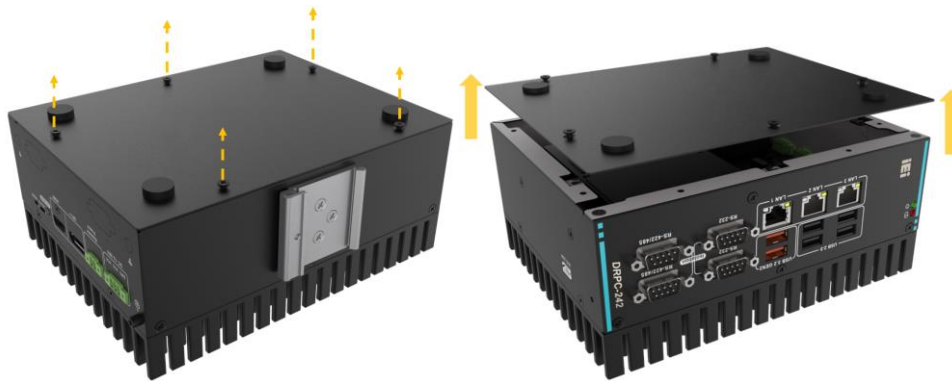

Figure 3-1: Remove the Cover
Step 2: Take off the back cover (Figure 3-1).